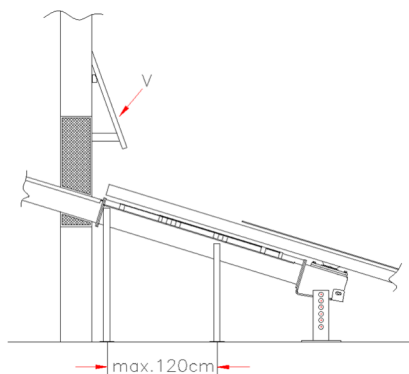

Fig: 3
- 15) The boarding (V, Fig. 3) over the inspection hatch must be provided on site and prevents uncontrolled spillage of the fuel into the boiler room. A sloping board 3 cm thick and 80 cm wide must be fitted at an angle of approx. 20°, 40 cm above the outfeed auger and 40 cm from the storeroom wall. The structure must be adequately fixed and adequately supported underneath.